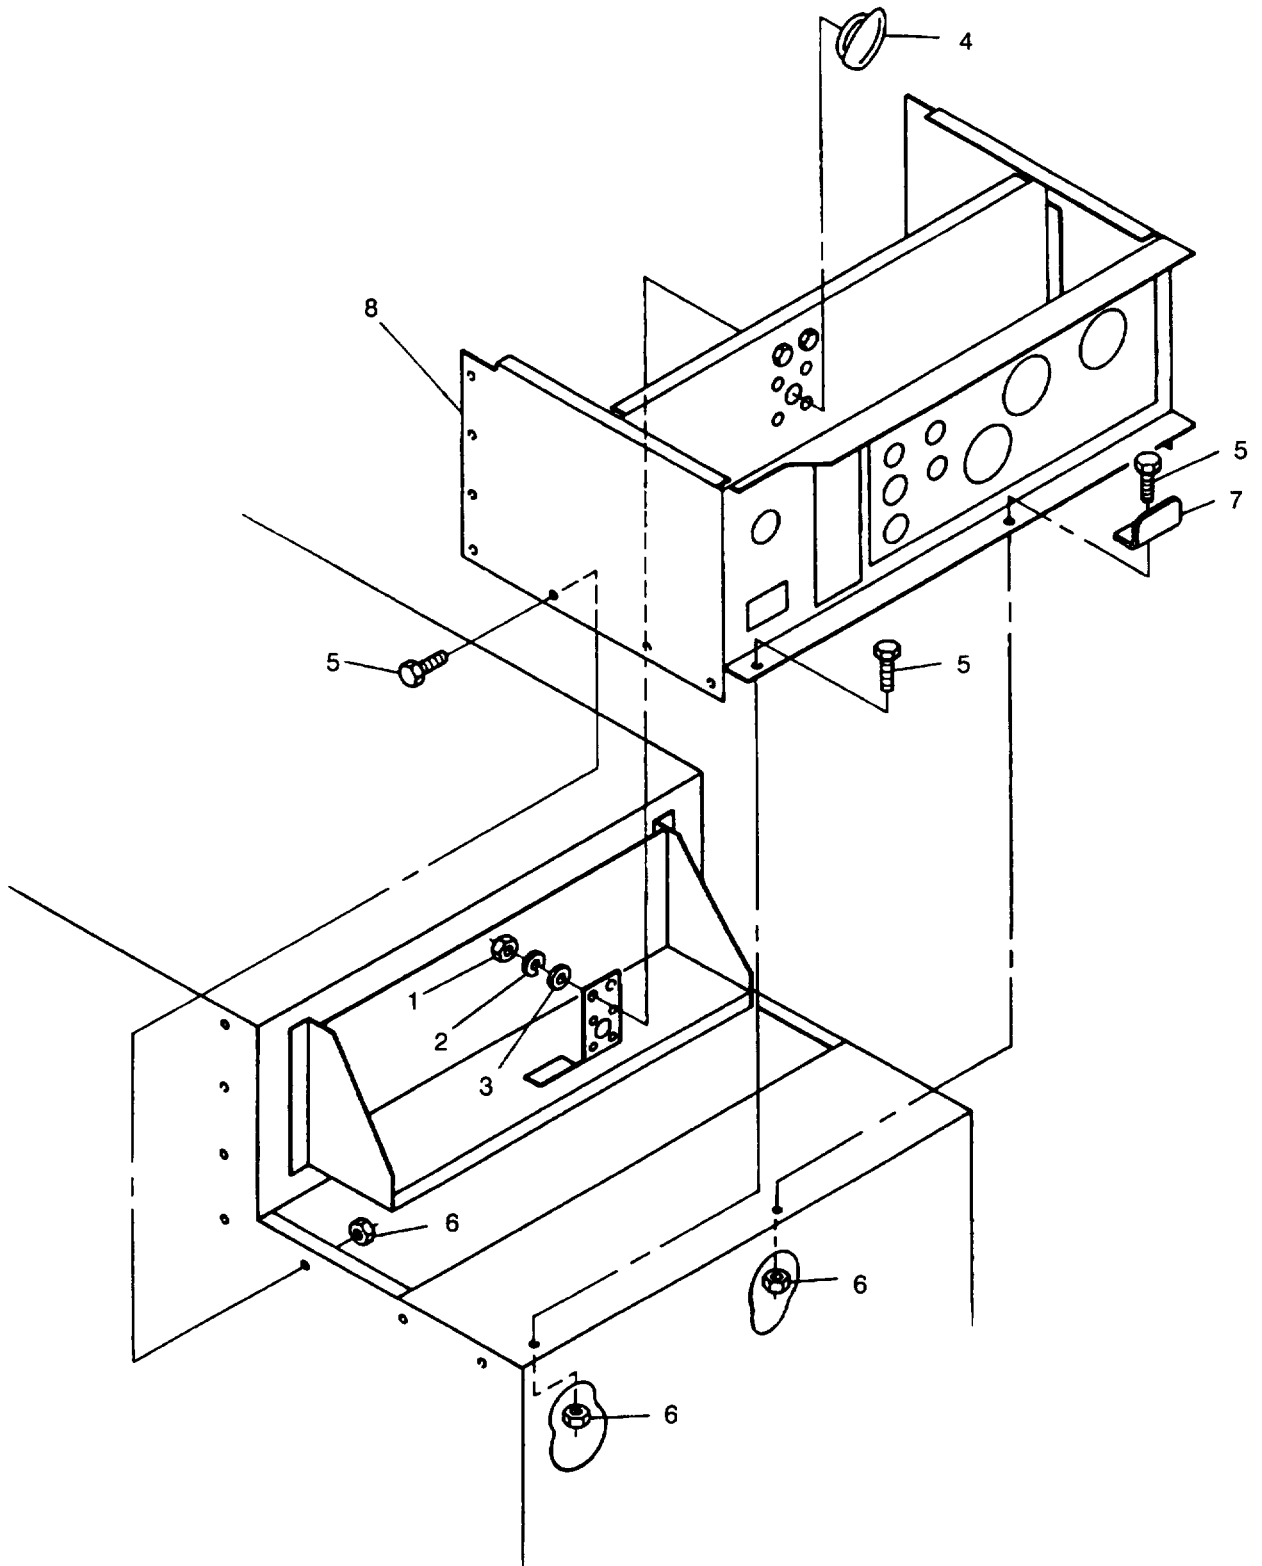

Figure 2-10. Control Box Assembly
- e. Remove nuts (1, Figure 2-10), lockwashers (2), washers (3), and voltage reconnection switch knob (4).
- f. Remove bolts (5), nuts (6), and door striker (7).
- g. Remove control box assembly (8).
- a. Install control box assembly (8, Figure 2-10) and door striker (7) and secure with bolts (5), and nuts (6).
- b. Install voltage reconnection switch knob (4), washers (3), lockwashers (2), and nuts (1).